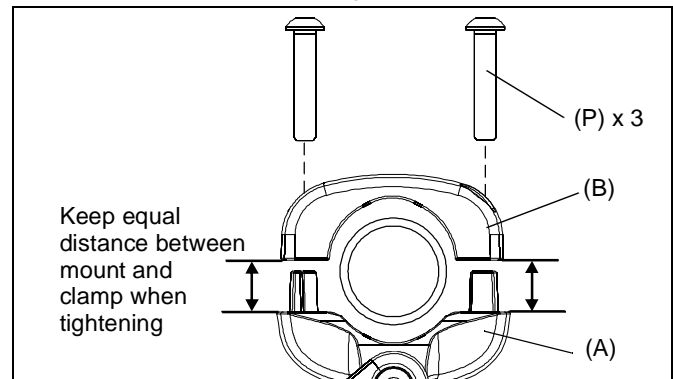

Figure 4
NOTE: Equally tighten screws (P) against rear clamp (B) and front clamp (A). (See Figure 4)